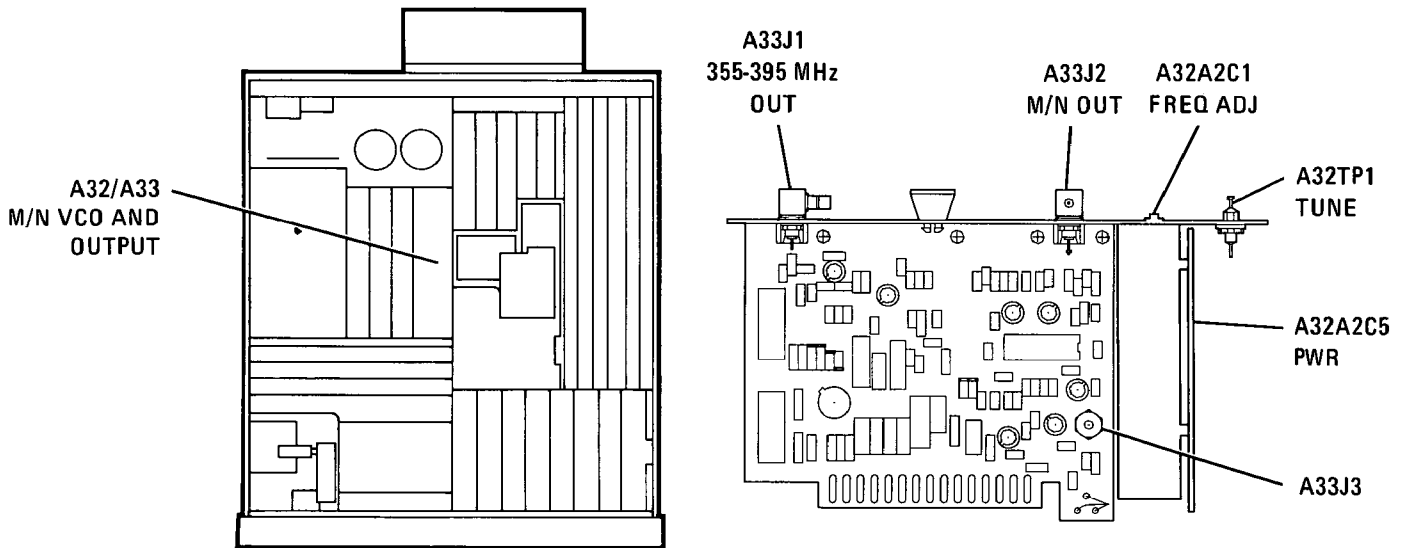

Figure 5-9. Location of M/N Loop Adjustments
6. Connect DVM to A32TP1 TUNE test point. Refer to Figure 5-9 for location of A32 assembly.
12. Disconnect A32 output cable A32A1W1 from A33J3 (Figure 5-9) and connect this cable using SMB male-to-male adapter to the input of the Spectrum Analyzer. Set 8340A LINE switch to ON and press [INSTR PRESET] pushbutton.
15. Adjust A32A2C5 PWR for a VCO output level of $0 \text{ dBm} \pm 2 \text{ dB}$ as indicated on Spectrum Analyzer. Refer to Figure 5-9 for location of adjustment.